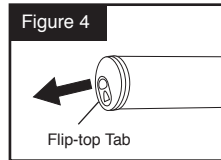

Figure 4
4. Push grease cartridge into gun barrel completely, until metal edge tightly seals on top of the grease gun barrel. Detach flip-top seal from cartridge. (Figure 4)